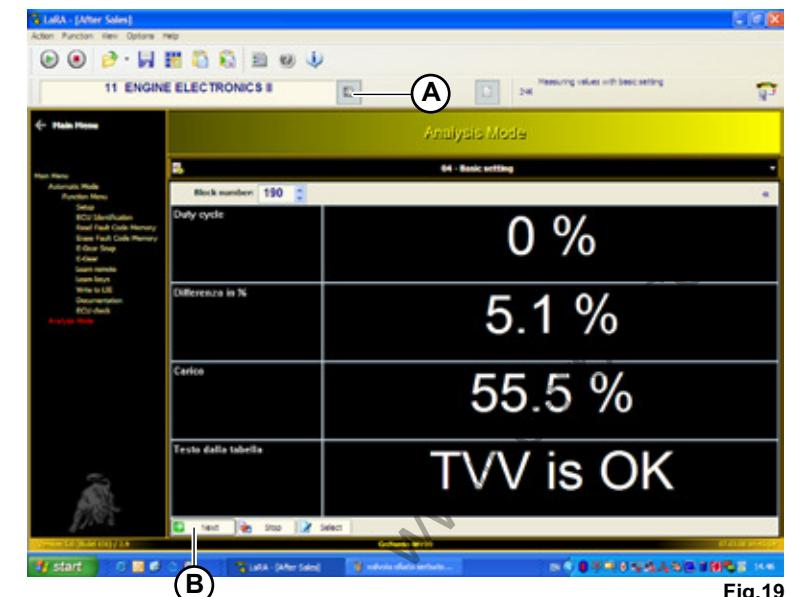

Fig.19
- Select routine 190 inside the block number (**A-Fig.19**).
- Start the connection (▶) and press the start push-button (**B-Fig.19**).